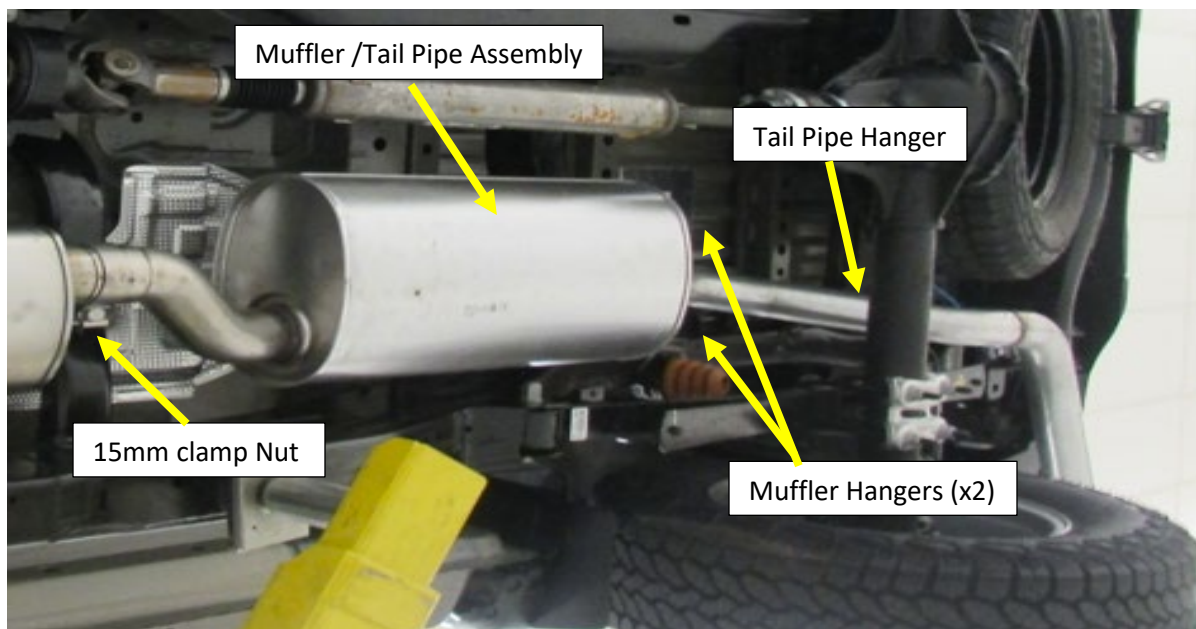

Figure.1
1. Loosen the 15mm nut at the clamp on the Muffler inlet pipe between the resonator and muffler. **Fig. 1**
3. Remove the 10mm bolt at the tail pipe hanger- isolator assembly on the right rear frame rail. **Fig.1**